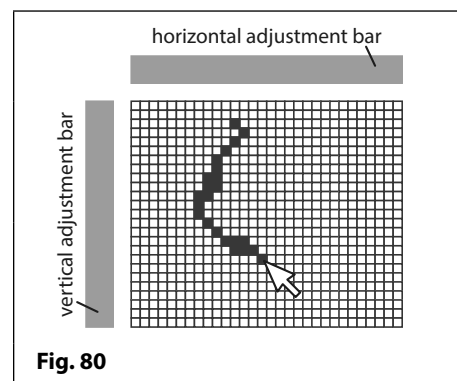

Fig. 80
- To draw an individual pixel move the cursor to the relevant pixel in the editing area and click the left mouse button once, **Fig.80**.